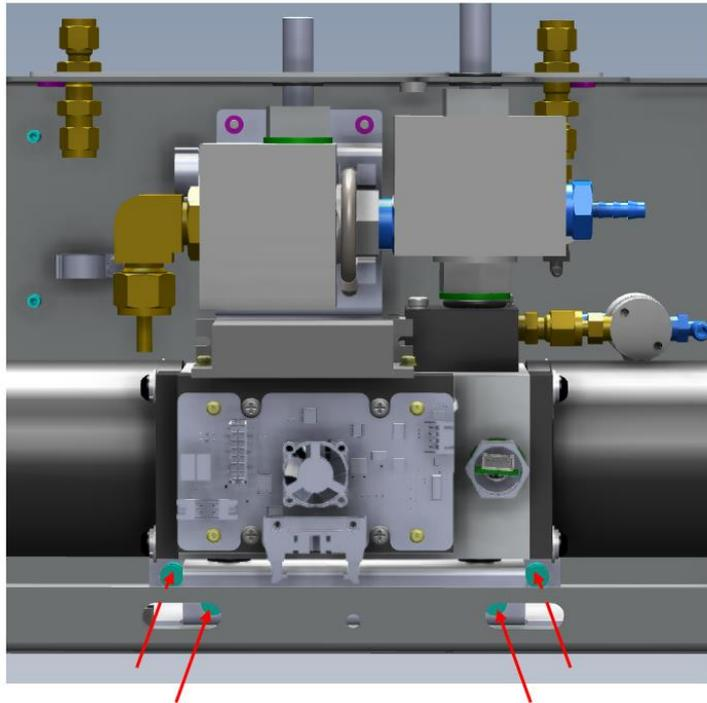

Figure 188 – Indication of Access for Cell Bracket Captive Screws
7. Using a long M4 screwdriver, loosen the captive screws on the cell bracket two at the front and two at the back, all accessed from the front. Refer to Figure 188.